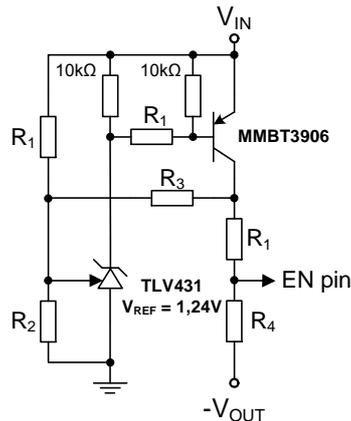

Figure 13: Level-shifting comparator for precision UVLO with controlled hysteresis
In some applications the large hysteresis between the rising enable UVLO threshold (V_{EN}) and the falling, shutdown threshold (V_{SD}) can be an advantage, but in most cases the difference between V_{EN} and V_{SD} is less than one volt. In order to achieve a small hysteresis a level-shifting comparator is needed. Figure 13 shows one example built with low-cost parts.
- To set the hysteresis as defined in Section 4.8.1, remove both RENT and RENB. Assemble the circuit of Figure 13 along with the calculated values on a small section of perforated PCB (“perfboard” or “dot PCB”) and then connect it with the shortest wiring possible to the V_{IN}, GND, $-V_O$ and EN nodes of the evaluation board.